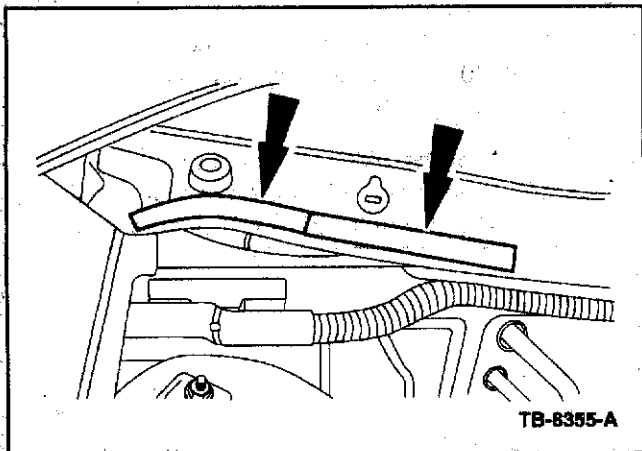

Figure 9 - Article 06-14-10
12. Place the other two cut pieces of the PVC soft foam adhesive stripes on the metal body surface over the PCM area. The two ends need to touch, do not allow any gap between the two ends. (Figure 9)